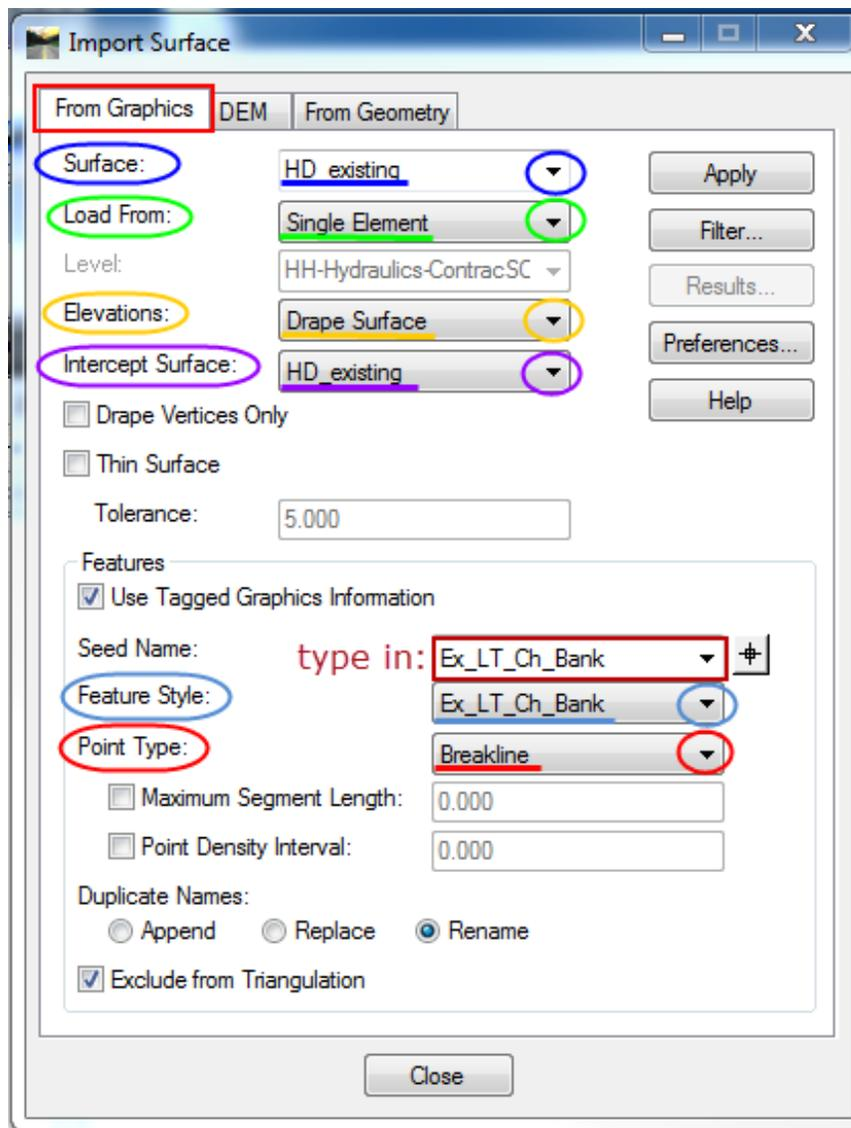

Figure 13 - Import Surface
- C. In InRoads making sure **HD_existing** is active. Click on **File > Import > Surface**. In the Import Surface dialog box click on the **From Graphics Tab**. Select for Surface: **HD_existing**, Load From: **Single Element**, Elevations: **Drape Surface**, Intercept Surface: **HD-existing**. Select for Features: **Toggle on Use Tagged Graphics Information**, Feature Style: select from drop-down **Ex_LT_Ch_Bank**, **type** the same name into the space for **Seed Name**, Point Type should be set to **Breakline**. Click **Apply**; Figure 13. Follow the command prompts in the MicroStation command prompt bar. **Data Point** on the **Left Channel Bank line** drawn in MicroStation. **Accept** the line or **Reject** if you picked the wrong line.
- E. **Close** the Import Surface dialog box; Figure 13.